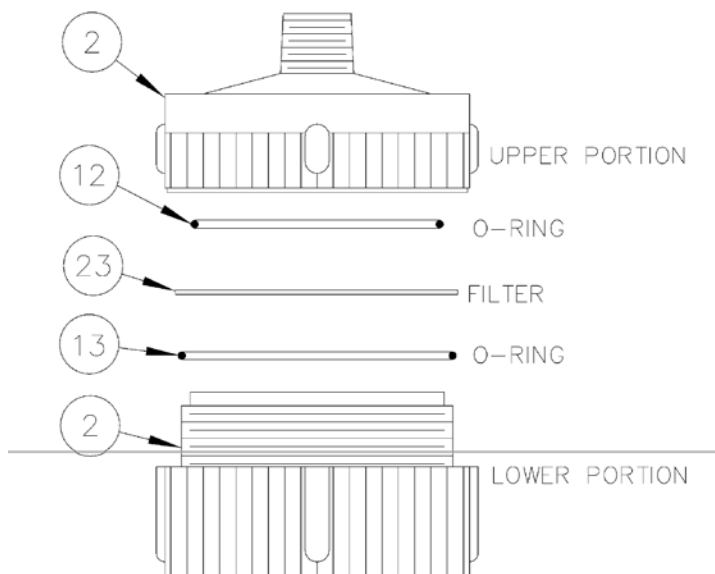

Fig. 4
- 2. Make sure the filter "O" Ring [12 in Fig. 4] is in place then insert the membrane filter, [23 in Fig. 4],
- 3. Re-assemble the lower portion of the filter holder [2, Fig.4]. Make sure "O" Ring [13 in Fig.4], is in place on the lower portion of the filter, [2 of Fig. 4],
8. Unscrew the lower portion of the Membrane filter holder [2, Fig. 4] with the 1/4 inch tubing attached to it.
9. Carefully remove the membrane filter [23, Fig. 4] from the filter holder. The filter disc may be examined for the type and amount of foreign matter.
After each test carefully clean the reservoir, top and bottom with soap and water. Rinse with distilled water and dry before re-assembly. Dis-assemble, inspect and clean the filter holder, and its "O" rings, [12, 13, Fig. 4.] Replace the "O" rings if found defective.